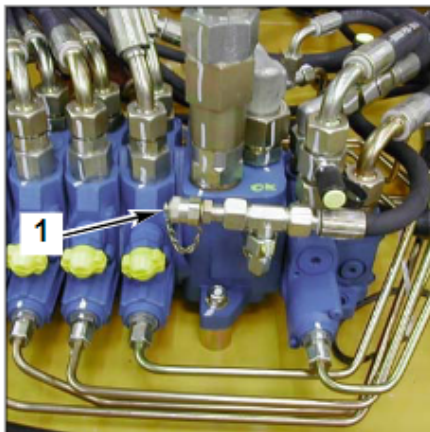

Fig. 2 SX14 valve block
- 3- Measure the pressure (1 fig. 2) using the manometer.